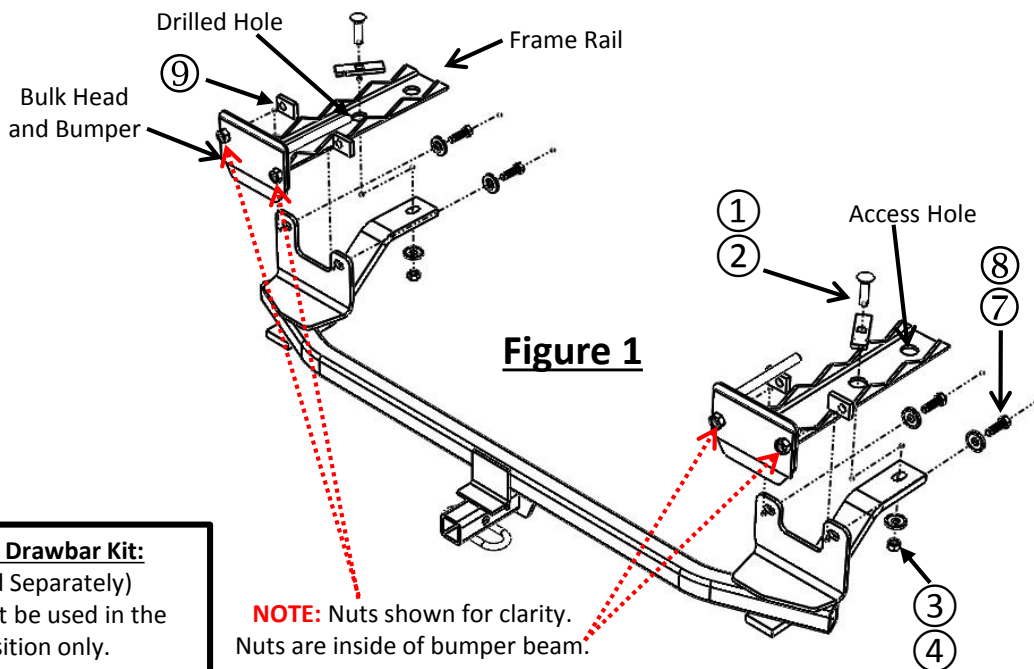
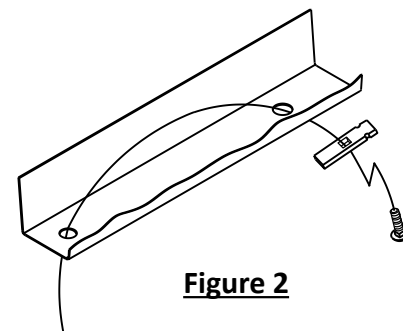

Figure 1
Figure 2
8. **Install Hitch** – Tape spacer blocks (item 9) to end panel aligning holes in blocks with weldnuts in bumper beam. Raise hitch into position and loosely install (4) M8 bolts and 3/8" conical washers supplied, (2) per side. **See Figure 1.** Using a 1/2" drill bit and the hitch as a template, drill a 1/2" hole in bottom of frame at center of slot in hitch, both sides. Remove rubber plug from forward access hole in bottom of frame, (1) per side. Feed coiled end of fishwire through drilled hole and out of forward access hole. Attach 7/16" carriage bolt and 1/4" spacer block to fishwire and pull fasteners into position, both sides. **See Figure 2.** Loosely install the 7/16" conical washers and hex nuts onto carriage bolts, (2) places. Tighten all fasteners to specifications below.